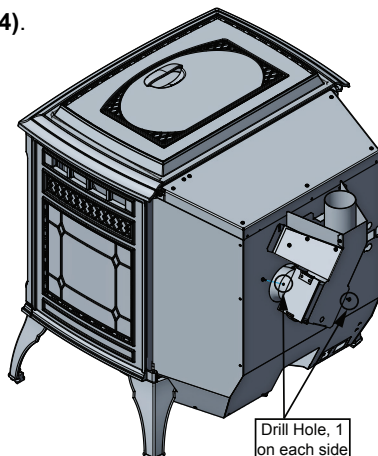

Figure 4
- Drill 2 holes with #26 drill bit (**C3**) through the Exhaust Outlet using the 2 holes already in the short horizontal pipe in the Top Vent Adapter as a guide. Secure using two mounting screws (**C2**) (**Figure 4**).